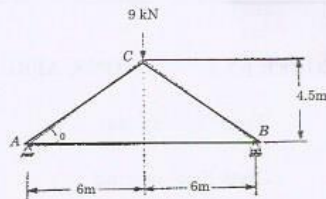

Fig. 1
11. (a) Find the vertical and horizontal deflection of the joint C of the pin jointed truss shown in Fig.1 by unit load method. The area of the horizontal member is 150 mm2 and the area of the other members are 200 mm2 each. Take E = 200 GPa.